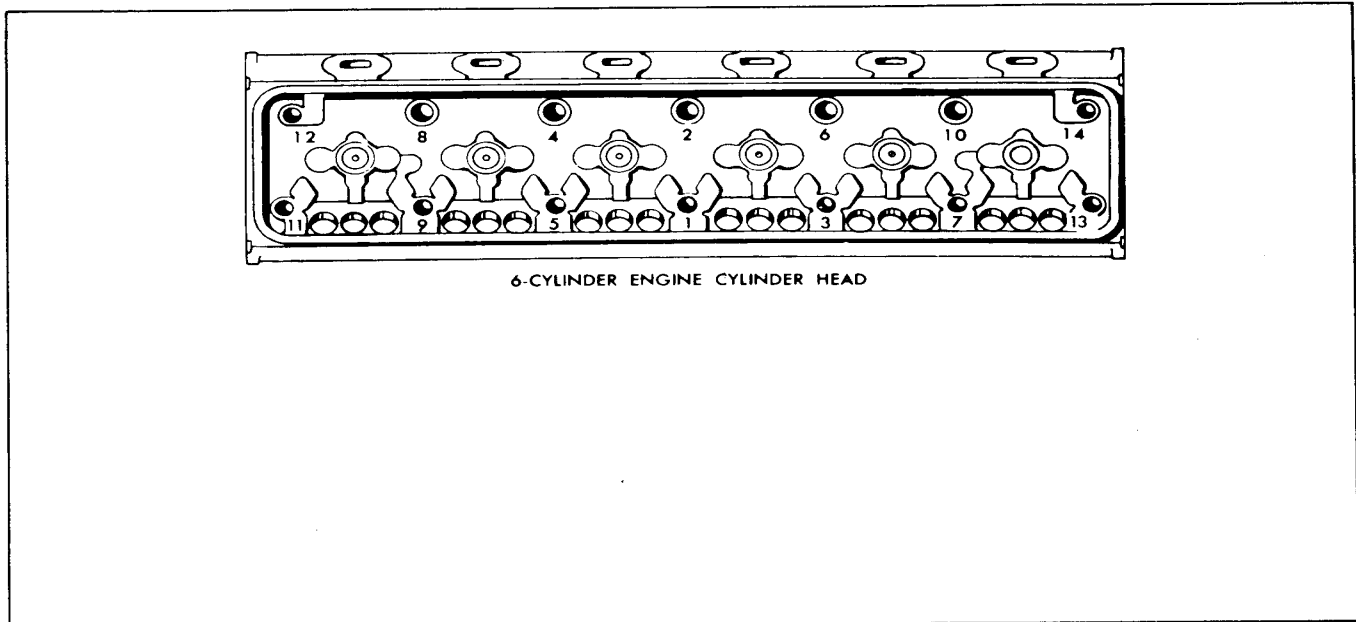

Fig. 15-Cylinder Head Bolt Tightening Sequence
8. Tighten the bolts (or nuts) to 175-185 lb-ft (238-251 Nm) torque with a torque wrench, one-half turn at a time, in the sequence shown in Fig. 15. Begin on the cam follower side of the head to take up tension in the push rod springs. Tighten the bolts to the high side of the torque specification, but do not exceed the limit or the bolts may stretch beyond their elastic limits. Attempting to tighten the bolts in one step may result in trouble and consequent loss of time in diagnosis and correction of difficulties, such as compression leaks, when the engine is put into operation.